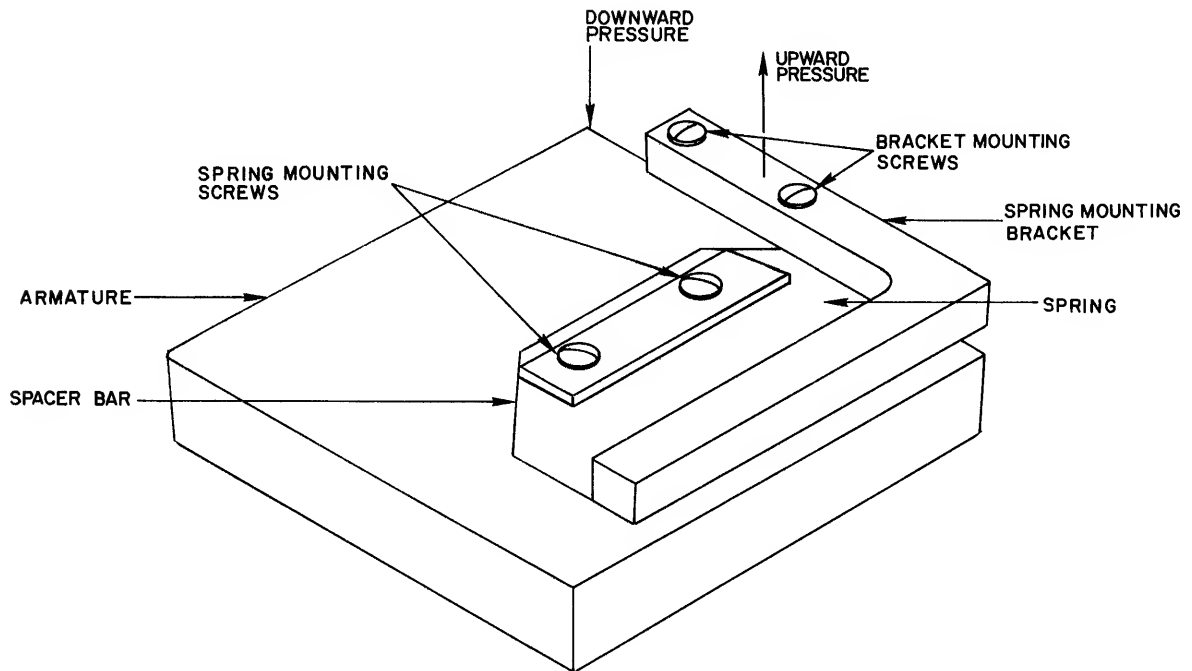

Figure 5-9. Brake Assembly
1. Refer to Figure 5-9 and remove the two mounting screws which secure the cover to the brake assembly.
4. With the armature in the left hand and the spring mounting bracket in the right hand, exert pressure on the rear of the armature so that the armature is forced away from the spring mounting bracket. Refer to Figure 5-9.